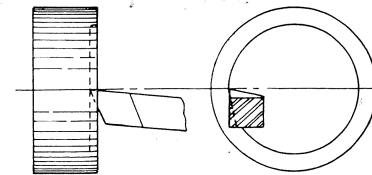

Fig. 7
**FACING.** Before starting a facing operation, it is wise to clamp the carriage to the bed, unless a carriage stop is used. This prevents it from moving away from the work. Arrange the cutting tool as shown in Fig. 7, so that the cutting edge is the only part that can touch the work throughout the operation. Note that the point reaches the work at just about the center, and at an angle of between 30 and 45 degrees. Feed the tool from the center toward the outside diameter. Take light cuts.